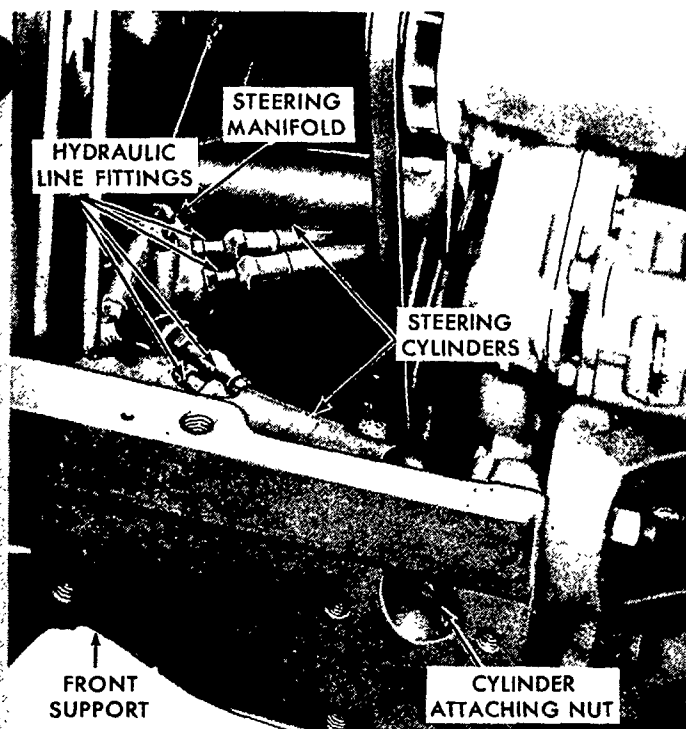

Figure 83
2. Disconnect the four hydraulic lines from the power steering manifold, Figure 83. Remove and discard the O-rings from the line fittings.
7. Insert the steering cylinder mounting studs in the holes at the sides of the front support, Figure 83, and secure with the attaching nuts. Tighten the nuts to a torque of 55-75 lbs. ft. (7.6-10.3 kgm).